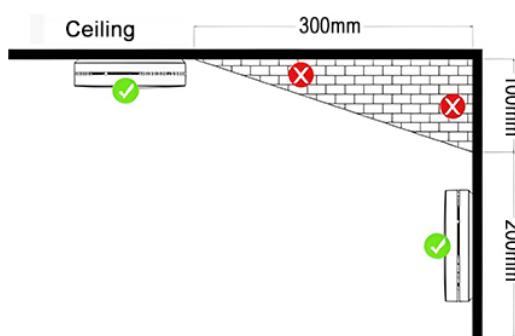

Figure 1
4. If the alarm cannot be installed in the middle of the ceiling, install it 300mm away from the corners. (See figure 1).